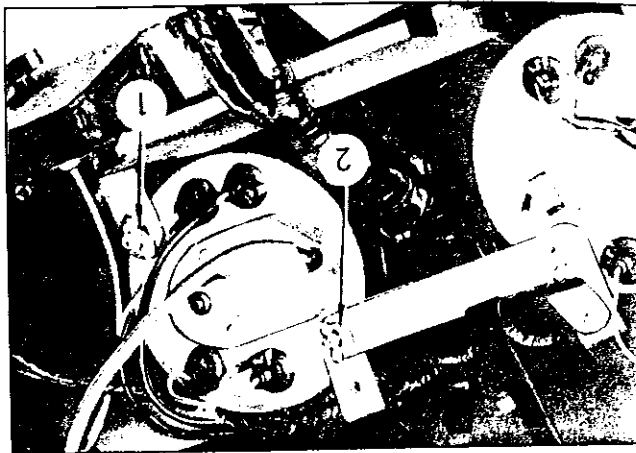

Fig. BE-14 Removing speedometer
- Loosen the wing nuts on the meter brackets [1] and [2] in Figure BE-14 ] on the upper and lower sides of the reverse side of the speedometer, and withdraw the speedometer from the instrument panel.